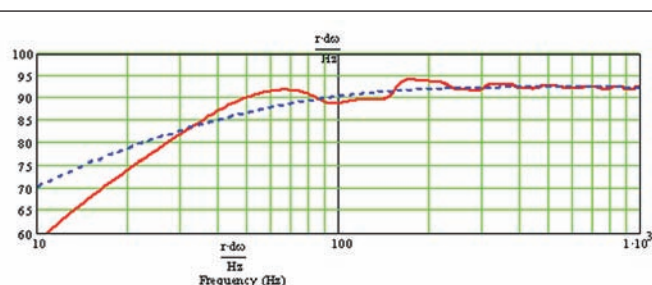

FIGURE 3: Room gain makes it sound better than it looks.
The dotted line in **Fig. 3** is the driver in an infinite baffle (IB). The SPL might look poor, but because the driver and the opening are at the floor, there is a